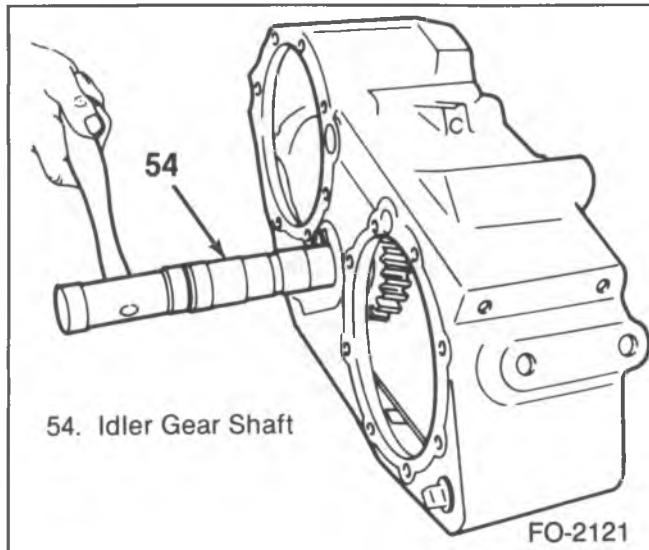

Figure 12—Installing the Idler Shaft
- Drive the shaft through, using a soft hammer (figure 12).
- 5. Washer (28).
- 6. New locknut (27).